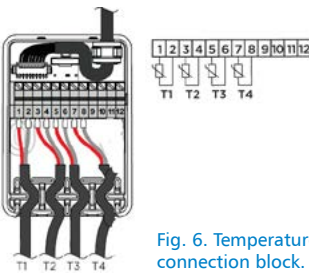

Fig. 6. Temperature sensor connection block.
- Then, connect the sensors to the included connection block in accordance with Fig. 6.